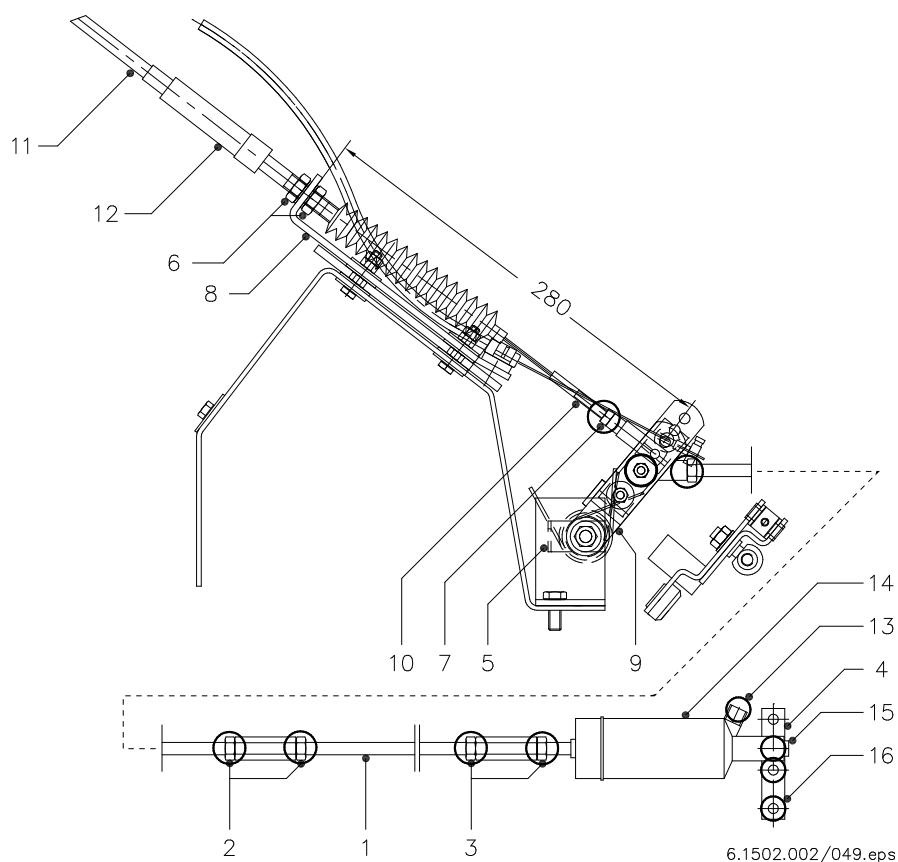

Figure 8 Throttle control, rear, for Mercedes engines
1. Before the throttle cable is fitted, the distance between the centre of the lever {9} and the attachment point of the throttle cable must be checked. This must be 288 mm; see Figure 8. This distance can be adjusted by means of the four bolts 1 to 4 on support {15}. This is the basic adjustment.
1. Fit the throttle cable as indicated in Figure 8. The distance between strip {8} and the centre of lever {9} must be 280 mm. This distance can be adjusted by means of nuts {6} (coarse adjustment) and stud {10} (fine adjustment).